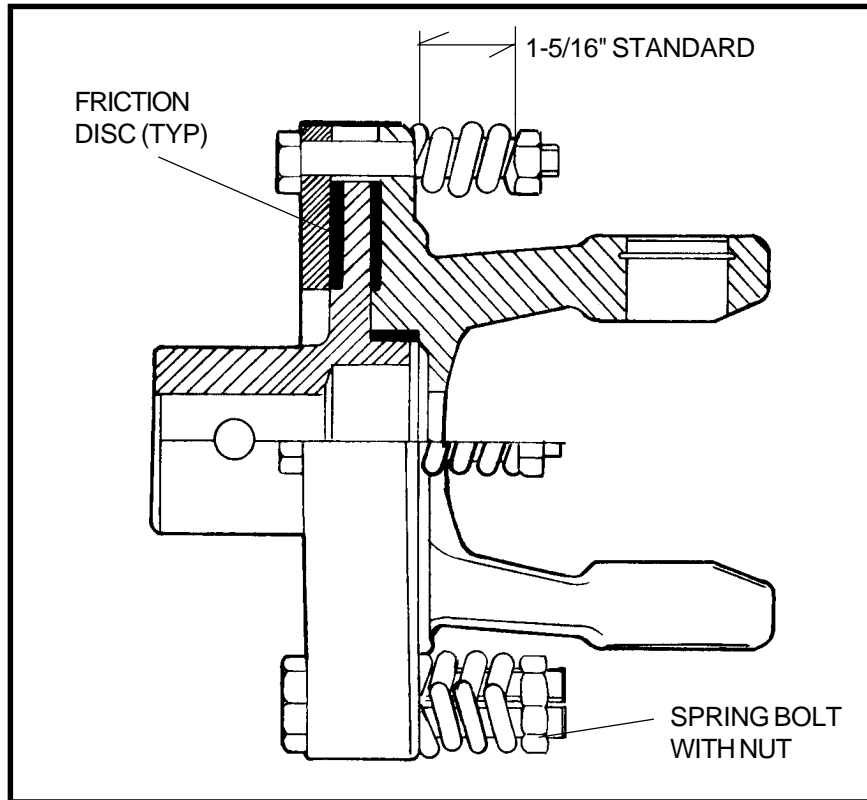

FIGURE 6. Slip Clutch Maintenance
1. Loosen nuts (1) **Figure 6** until the spring is free, and then retighten approximately one turn.